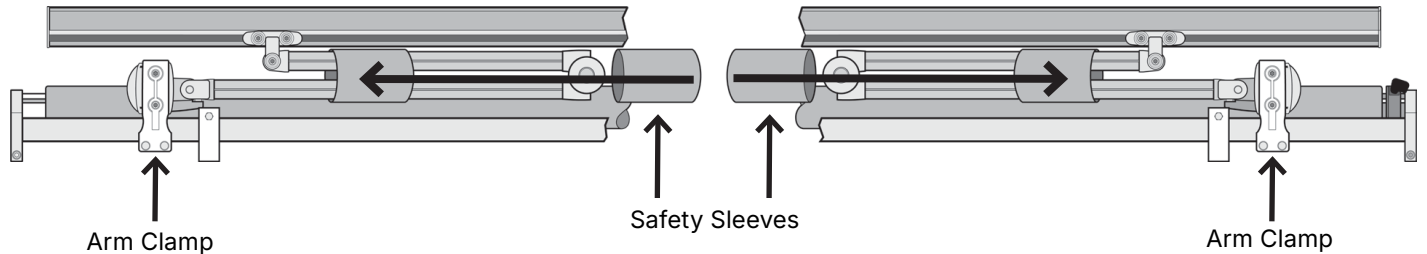

Figure 1
3. **Slide the supplied safety sleeves on both lateral arms, sliding them as far as possible toward the arm clamps (see Figure 1).**